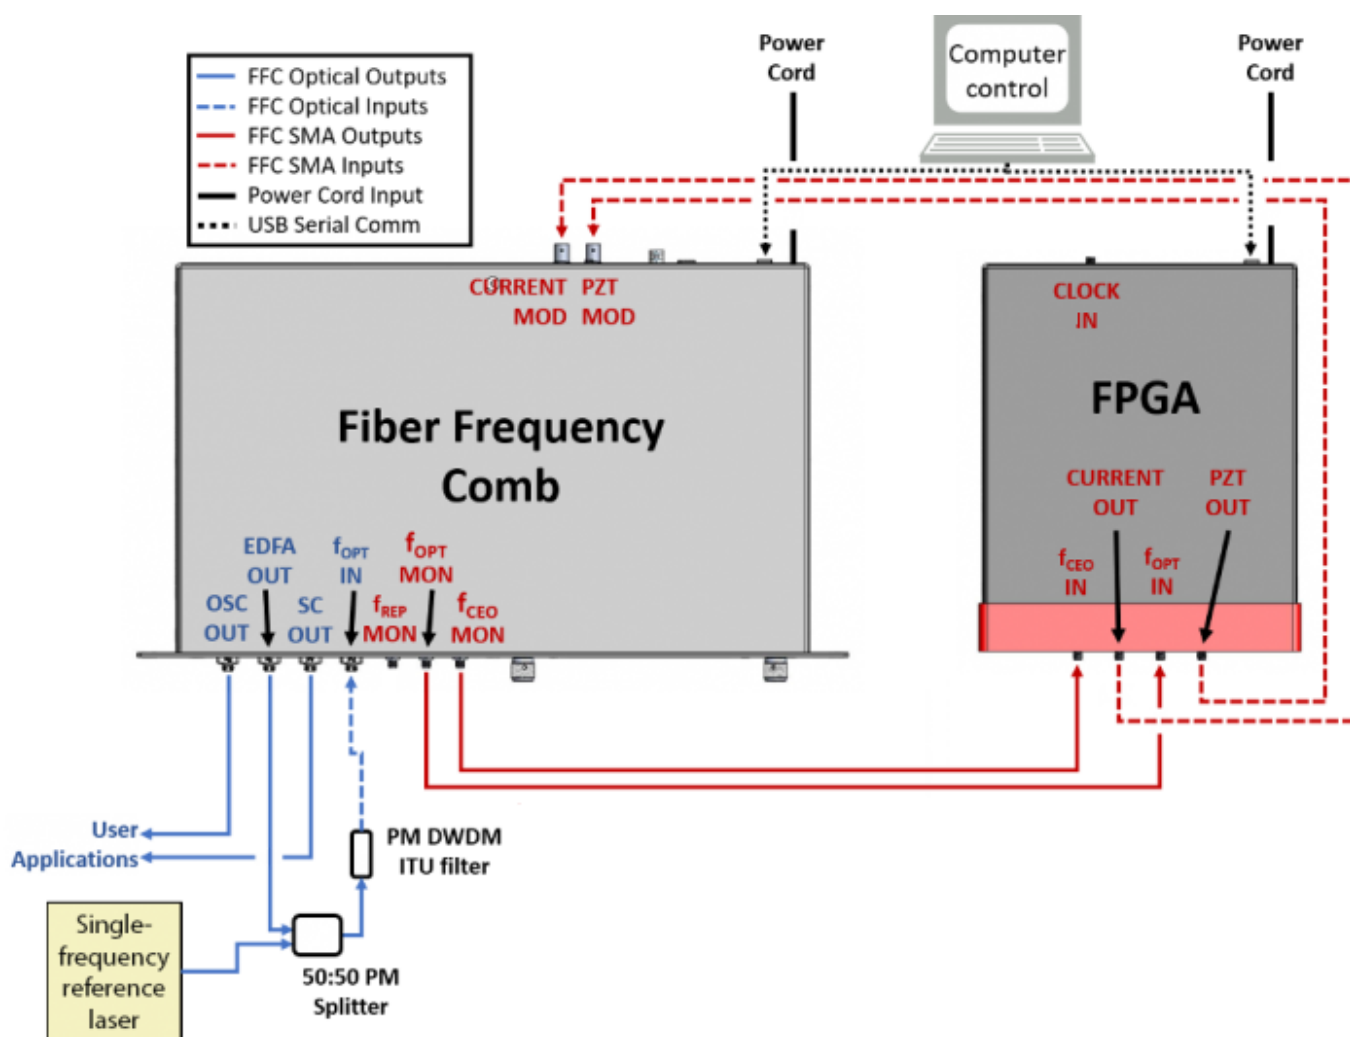

Fig. 22: FFC-100 electrical and optical connection diagram (Click for larger image)
2. Ensure all cables and fibers are connected according to the connection diagram shown in figure 22.8) Use of the internal FPGA clock is recommended.